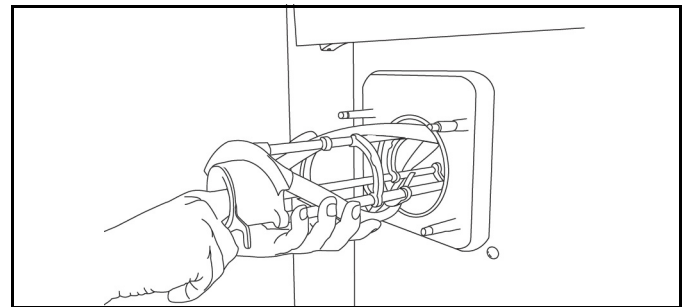

Figure 5-38
10. Draw valve handle and pivot pin should be taken out of freezing cylinder door to clean as shown in Figure 5-38.